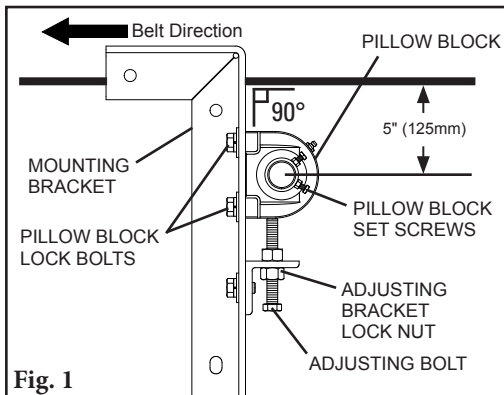

Fig. 1
1. **Install the Mounting Brackets.** Position the mounting bracket to locate the cleaner shaft centerline 5" (125mm) below the beltline (Fig. 1). The shaft must be installed so the replacement drum does not touch the belt. Pillow block bearings may be raised or lowered by loosening the lock bolts and turning the adjusting bolt as needed. The pillow block bearings should have the set screws facing the outside of the conveyor. Position the brackets perpendicular to the belt.
1. **Remove tension from drum to belt contact.** Lower the adjusting bolts to make room for the new drum (Fig.1).